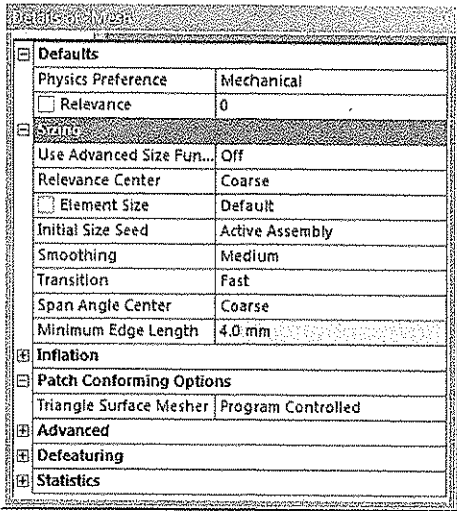

Figure 7-32 The Details of “Mesh” window
- Select **Mesh** from the **Tree Outline**; the corresponding options are displayed in the **Details of “Mesh”** window, as shown in Figure 7-32.
Based on the requirement of analysis, you need to select an option from the **Physics Preference** drop-down list in the **Details of “Mesh”** window. By default, **Mechanical** is selected in this drop-down list, refer to Figure 7-32. The other options in this drop-down list are **Electromagnetics**, **CFD**, and **Explicit**.